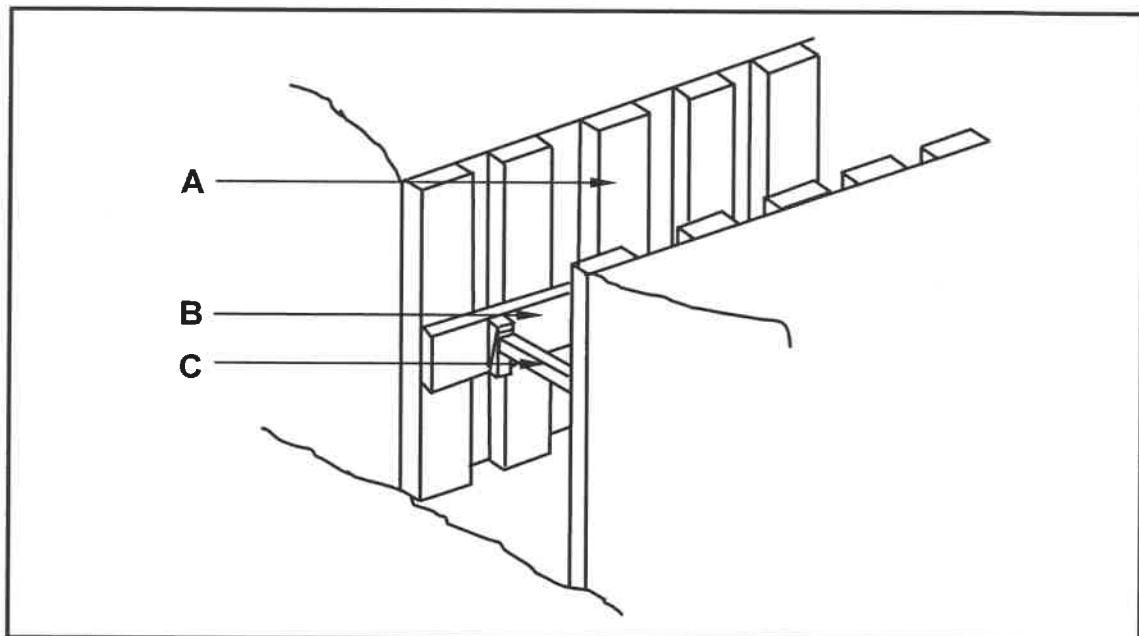

FIGURE 4.2
- 4.2 FIGURE 4.2 below shows the shuttering that is used in excavations.